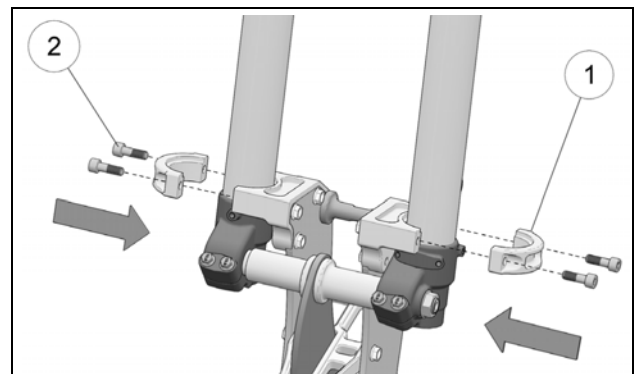

Figure 9
- Set the outer fork clamps (1) in their position at the bottom of the forks. The small machined diameter in the fork clamps is used as clearance for fork seals and so must be positioned up. Insert clamp assembly bolts (2); do not tighten at this point. See Figure 9.